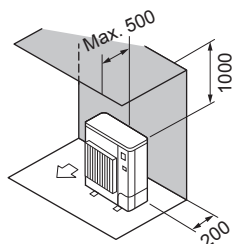

Fig. 3-7
- ② Obstacles at rear and above only (Fig. 3-7)